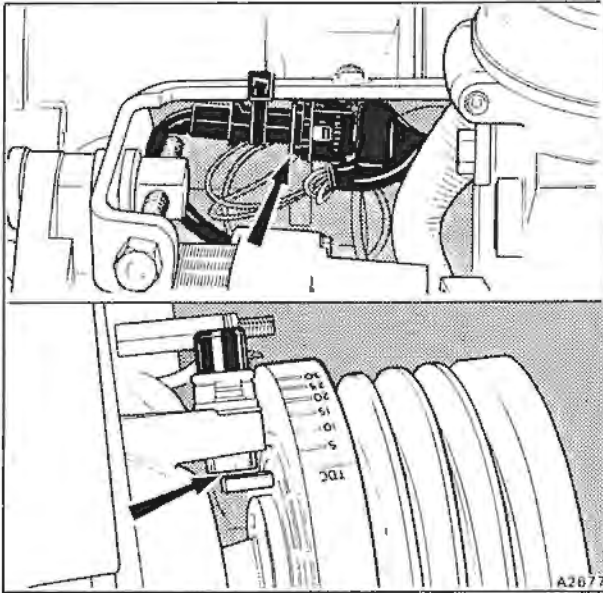

Fig. B4-61 Crankshaft reference sensor air gap
**Crankshaft reference sensor - To remove and fit** (see fig. B4-61)